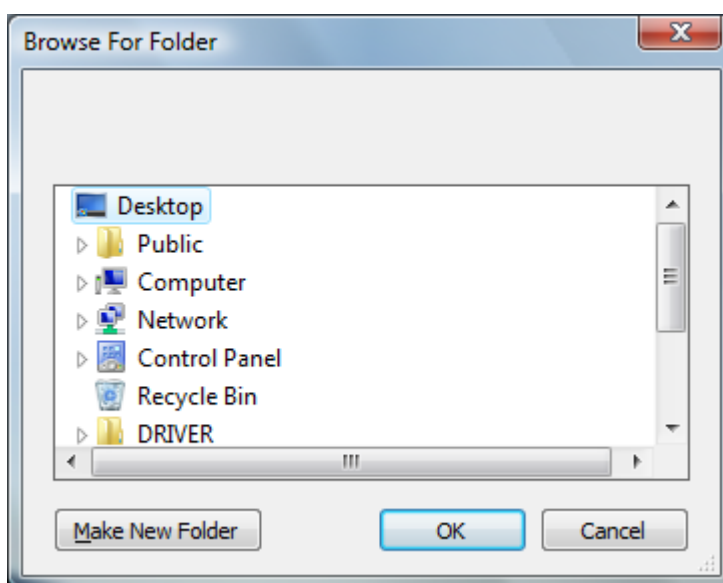

Fig.5.5.4-2 Screen of Browser
- ※ The data copied in the PC is shown in Fig.5.5.4-3.
- [Area-***.csv] ⑪ is the csv file to make a drawing of a map of the strength distribution based on the data measured in area mode. The mean score of the measured data is written in the 128-by-128 cells.
- In [Measure-***.csv] ⑫, the mean scores of the index value, Index value and Status value are recorded in order of measurement.
- In [Over-All-***.csv] ⑱, all data about the measurement time, measuring point and the number of times of measurement are recorded.
- The data of waveform is recorded as the value of AD conversion directly in [WaveForm-aaa-bbb-ccc.csv] ⑳ where aaa is X axial location, bbb is Y axial location and ccc is measurement number.